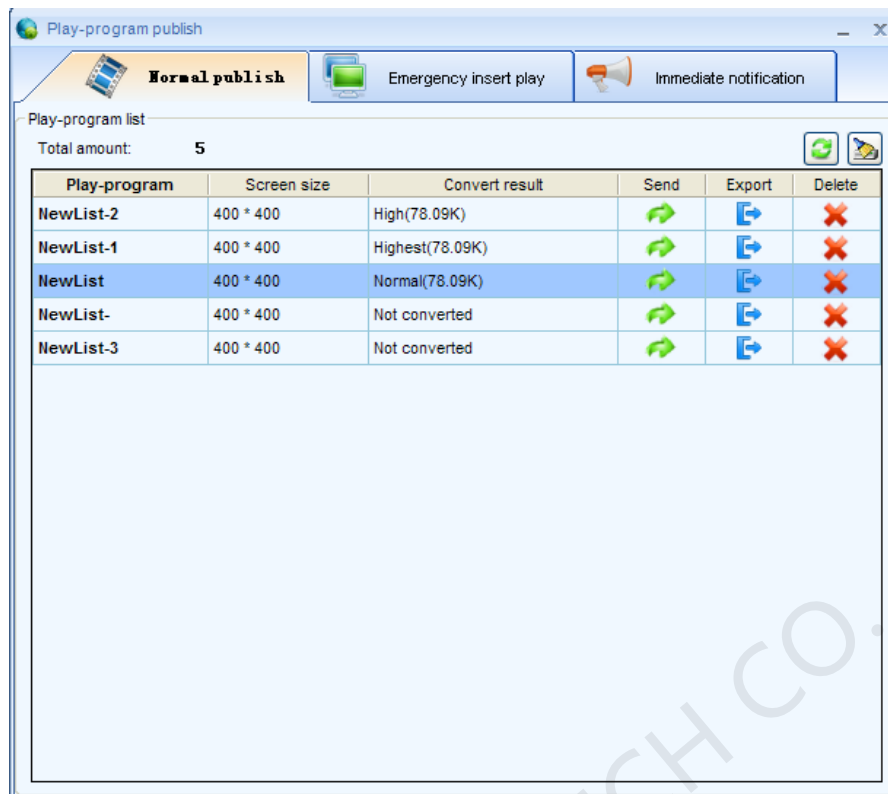

Fig. 10-64 Play-Program conversion result
- 1) Press  in Fig. 10-64 to enter offline export settings shown as below,